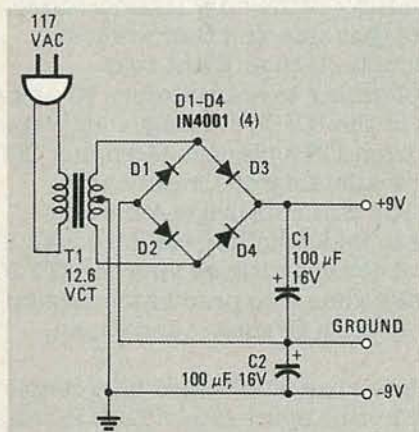

FIG. 2
• 3. In an attempt to get rid of some pesty black ants, I built the "French" circuit in Fig. 2 of "Ultrasonic Pest Repellers;" that circuit uses a 4011. I finished construction, but I can't tell whether my circuit is oscillating. The 4011 is a delicate CMOS IC, so I'm afraid I may have zapped it. To test my circuit, we caught several ants, placed them in a pail, and aimed the tweeter at them. They scampered around like crazy, so I think the device is working—but I'd like to be sure. Can you suggest a method of testing it? Incidentally, the schematic specified 560 pF capacitors, but I used 680 pF units. I suppose that that altered the frequency. Could the values of those capacitors be a problem?—J. W. D., Corning, NY.
A  $\pm 9$ -volt supply is shown in Fig. 2. The rectifier circuit is actually two separate full-wave rectifiers fed from the secondary of the transformer. One full-wave rectifier is composed of diodes D1 and D2, which develop +9 volts, and the other is composed of D3 and D4, which develop -9 volts.